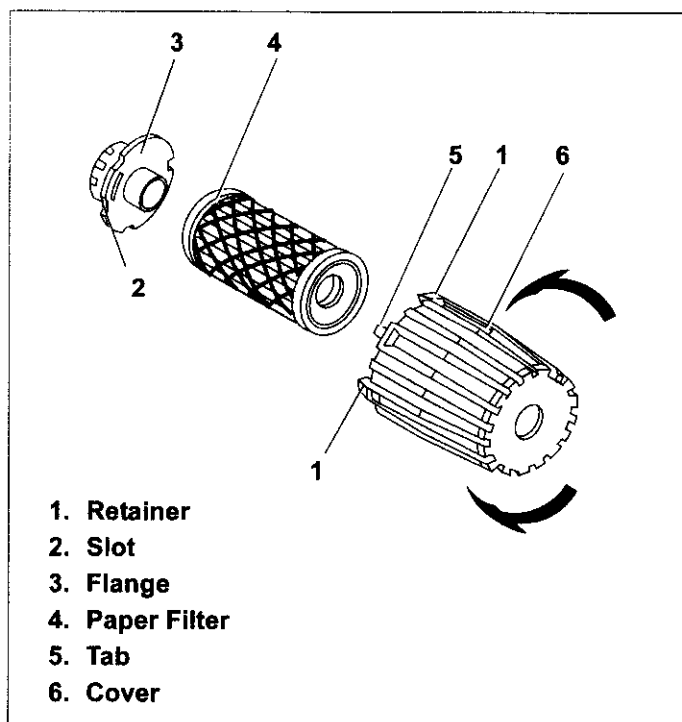

Figure 27. Air Cleaner Type "C" Assembly
1. Turn cover to left (counterclockwise) and remove it and paper filter from flange. See Figure 27.